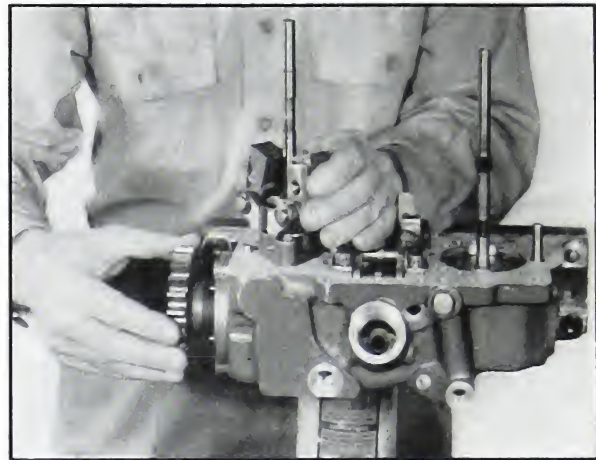

Fig. 5-333. Check governor drive backlash
2. Assemble a .032" laminated spacer to the drive shaft assembly and insert in the main housing. The spacer is used to establish back lash as described in Step 4 following. Fig. 5-333.
3. Check to see that oil hole indexes with oil hole in lower housing. Secure the governor bearing support with two capscrews and lockwashers. Fig. 5-333.